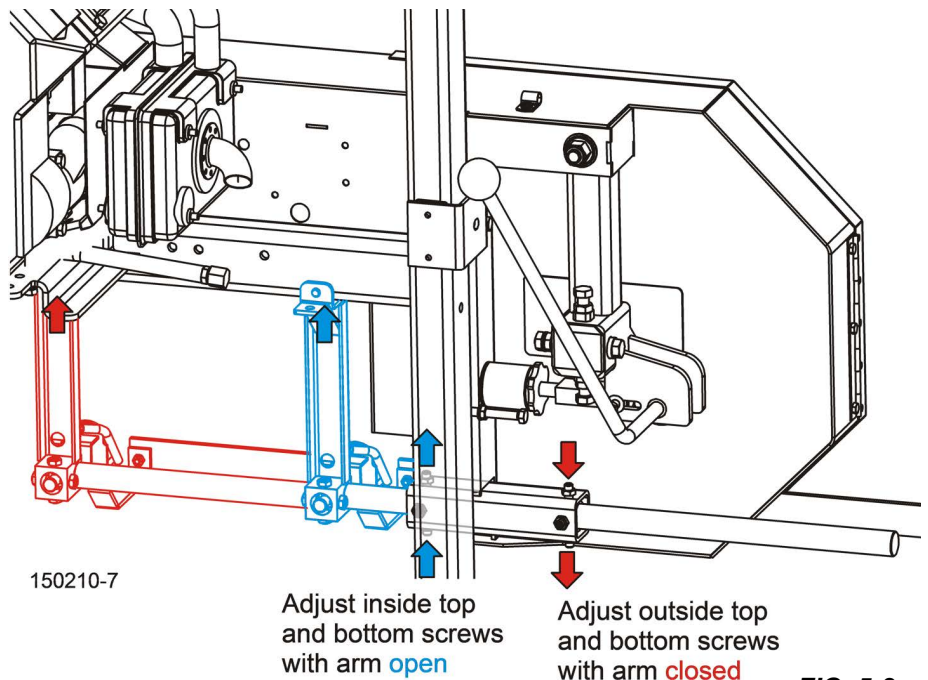

FIG. 5-2
- Adjust the blade guide arm out to 1/2" (13 mm) from fully open. See FIG. 5-2.